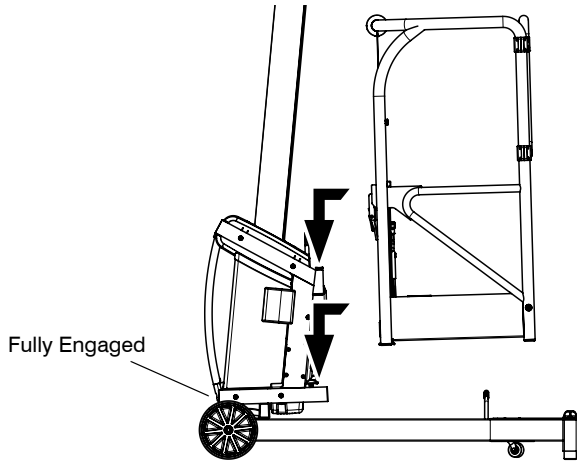

Figure 3-7. Attaching the platform to the carriage
- Attach the platform to the carriage (see Figure 3-7.).
- Make sure the platform's mounting pins are aligned with the holes in the carriage (A), then drop slowly down to seat properly.